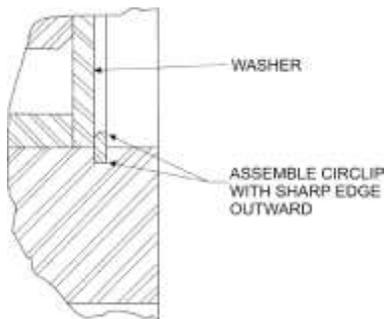
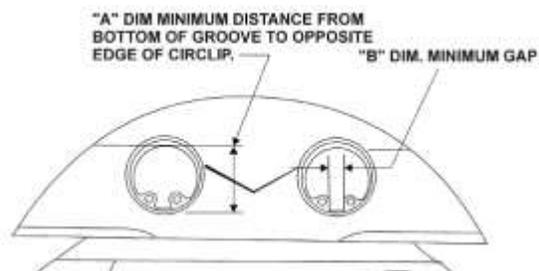

Figure 53
Figure 54
- (6) Install a new counterweight washer in each of the two holes on the counterweight as shown in Figure 53.
- (7) Install the new circlip on one side of each counterweight with the sharp edge outward as shown in Figure 53.
- (8) Use the specified Lycoming gage set identified in the latest revision of Service Instruction No. SI-1535. Make sure the circlips are installed correctly on the counterweight (Figure 53). Figure 54 shows the location of the A and B dimensions. Dimension A is the diameter of the gage. Dimension B is the width of the gage.